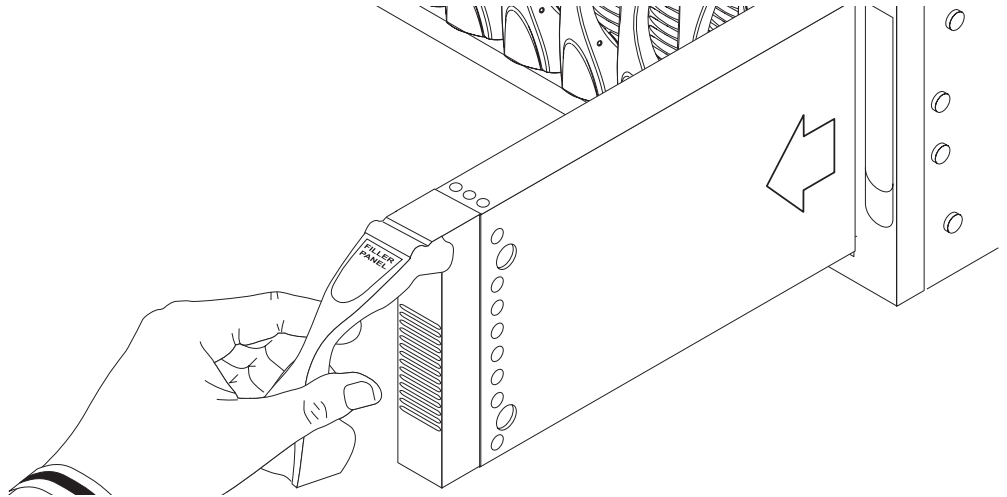

FIGURE 2-3 Removing the Filler Panel
3. Pull the lever to remove the filler panel from the system chassis (FIGURE 2-3).